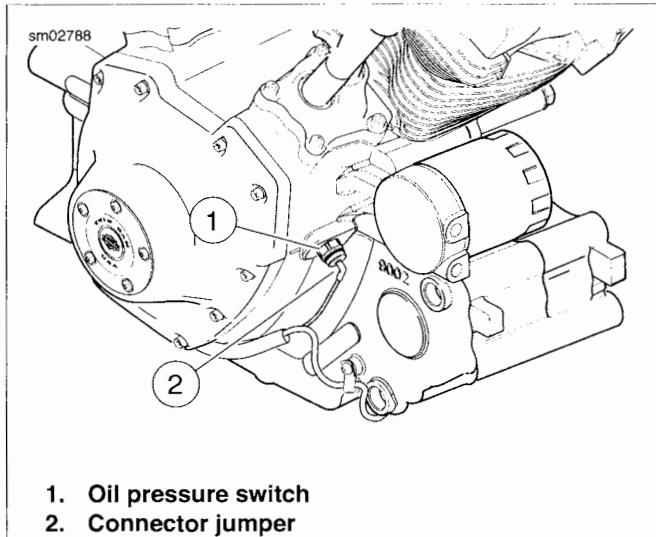

Figure 7-80. Oil Pressure Switch
See Figure 7-80. The oil pressure switch monitors oil pressure in the crankcase. If the oil pressure drops below 3 psi (20.6 kPa), the oil pressure switch is tripped and illuminates the low oil pressure indicator light. The oil pressure switch is located on the right side of the crankcase.
1. See Figure 7-80. Remove connector (2) from oil pressure switch (1).
2. See Figure 7-80. Install oil pressure switch (1) to crankcase. Tighten switch to 96-144 **in-lbs** (10.8-16.3 Nm).
3. Attach connector (2) to oil pressure switch.